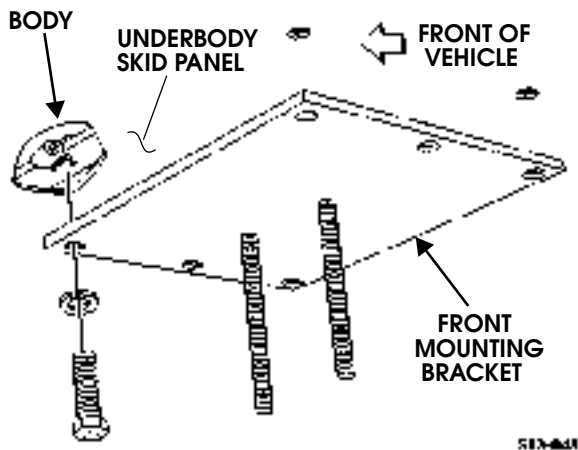

Figure 13-51: Front Mounting Bracket
- Remove four bolts, lockwashers, and front mounting bracket from rocker panel protection and body (Figure 13-51).
- Install front mounting bracket on rocker panel protection and body with four lockwashers and bolts. Tighten bolts to 29-31 lb-ft (39-42 N•m) (Figure 13-51).